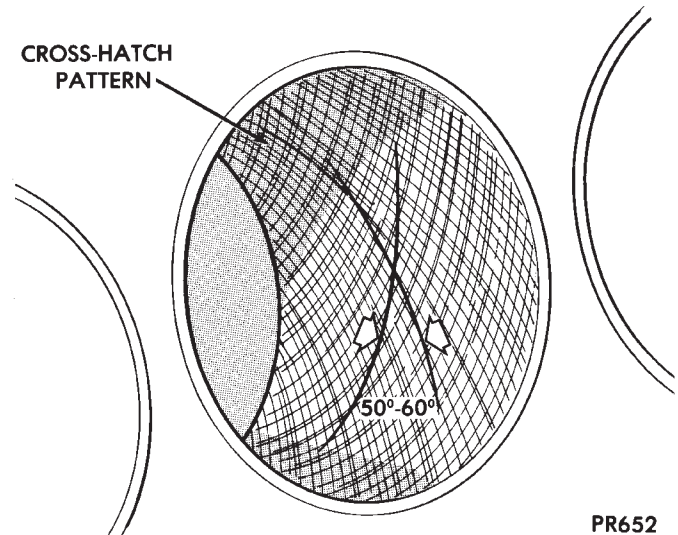

Fig. 5 Cylinder Bore Cross-Hatch Pattern
(1) Used carefully, the cylinder bore resizing hone C-823 equipped with 220 grit stones, is the best tool for this job. In addition to deglazing, it will reduce taper and out-of-round as well as removing light scuffing, scoring or scratches. Usually a few strokes will clean up a bore and maintain the required limits.
(2) Deglazing of the cylinder walls may be done using a cylinder surfacing hone, Tool C-3501, equipped with 280 grit stones, if the cylinder bore is straight and round. 20-60 strokes depending on the bore condition, will be sufficient to provide a satisfactory surface. Inspect cylinder walls after each 20 strokes, using a light honing oil. **Do not use engine or transmission oil, mineral spirits or kerosene.**
(3) Honing should be done by moving the hone up and down fast enough to get a cross-hatch pattern. When hone marks **intersect** at 50-60 degrees, the cross hatch angle is most satisfactory for proper seating of rings (Fig. 5).
(4) A controlled hone motor speed between 200-300 RPM is necessary to obtain the proper cross-hatch angle. The number of up and down strokes per minute can be regulated to get the desired 50-60 degree angle. Faster up and down strokes increase the cross-hatch angle.
(5) After honing, it is necessary that the block be cleaned again to remove all traces of abrasive.